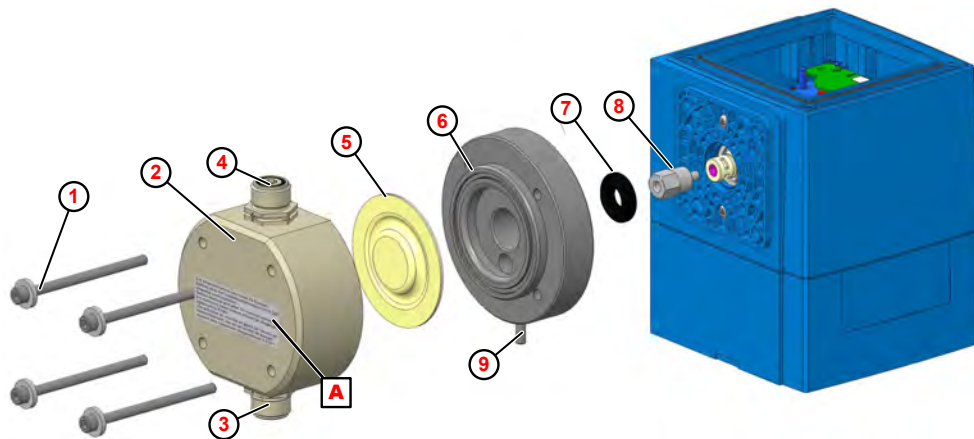

Fig. 24: Replacing the pump head, diaphragm and protective diaphragm
1. ➤ Unscrew the suction and pressure valve ( Fig. 24 , ③ and ④ ).
2. ➤ Undo and remove the pump head screws ① .
3. ➤ Remove the pump head ② .
4. ➤ Unscrew and remove the diaphragm ⑤ .
5. ➤ Remove the intermediate plate ⑥
6. ➤ Remove the protective diaphragm ⑦ .
8. ➤ Place the intermediate plate so that the diaphragm rupture outlet ⑨ points downward.